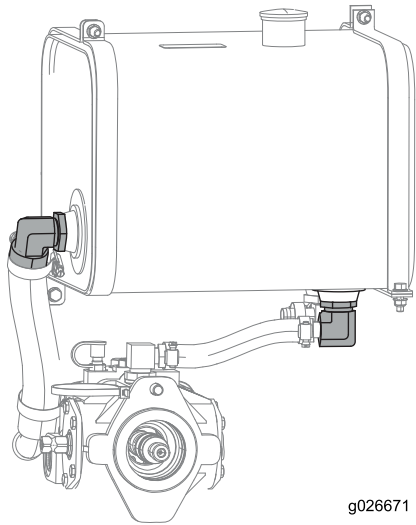

Figure 48
10. Remove the elbow adapters and remove and clean the filter screens with compressed air (Figure 48).